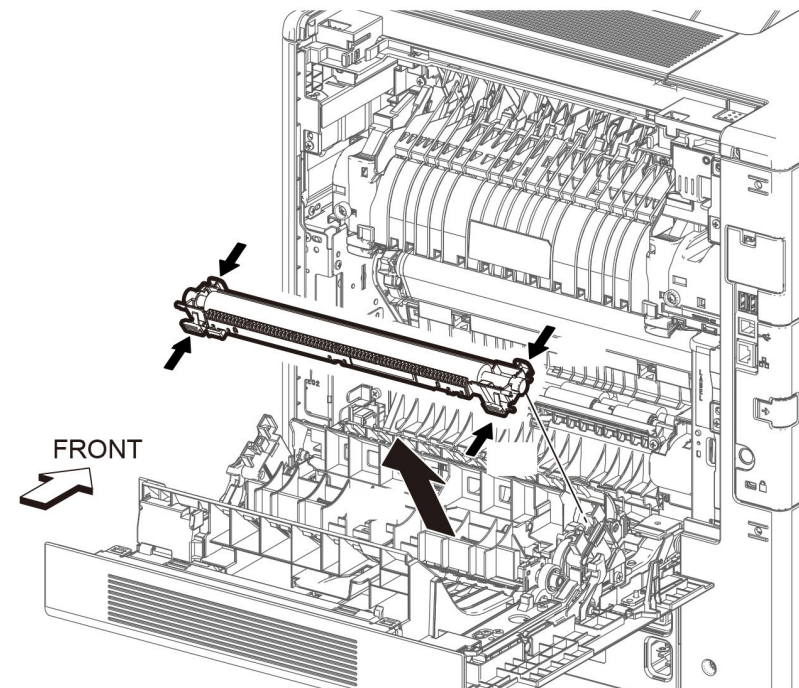

Figure 1 Remove the Second Bias Transfer Roller Assembly (C500/C600)
2. Refer to Figure 1, to release the four latches attaching the Second Bias Transfer Roller and remove the roller assembly.